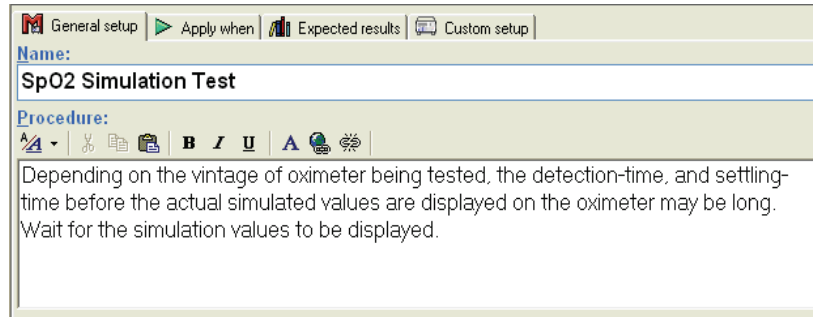

Figure 4-2. User-Definable Parts of the General Setup Tab
- Click the **General setup** tab. A screen opens, allowing entry of a name for the test. See Figure 4-2. In the space below the name, enter the procedures and instructions to be followed when conducting the test.